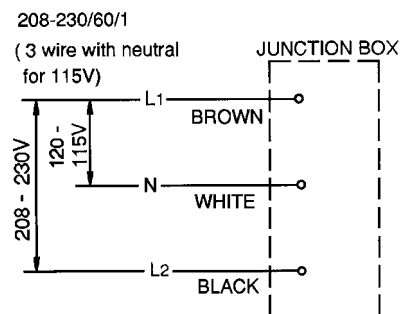

Fig. 6b
- On single phase models only, the white lead must be connected to the neutral conductor of the power source. Miswiring results in severe damage to the icemaker. See Fig. 6b.